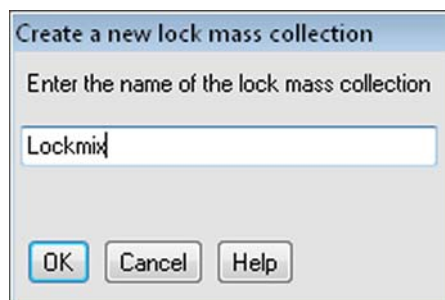

Figure 5-6. Creating a lock mass collection
2. In the New Lock Mass Collection dialog box, enter a name for the new lock mass collection. See Figure 5-6.